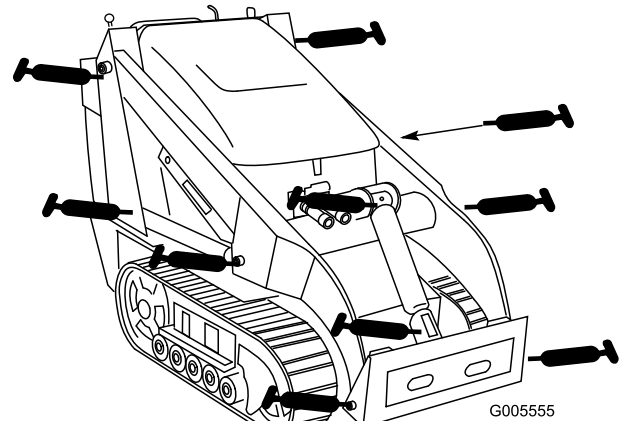
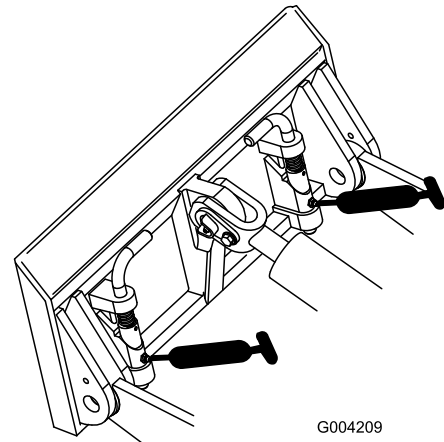

Figure 23
Figure 24
3. Connect a grease gun to each fitting (Figure 23 and Figure 24).